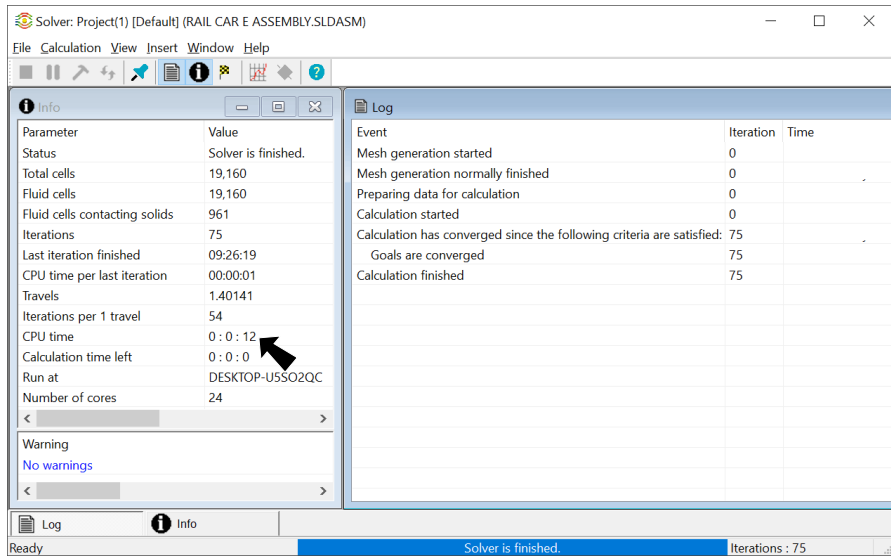

Fig. 15
Step 1. In the Solver dialog box you can view Calculation time left, **Fig. 15**. The CPU time runs around 1-2 minutes depending design and computer.